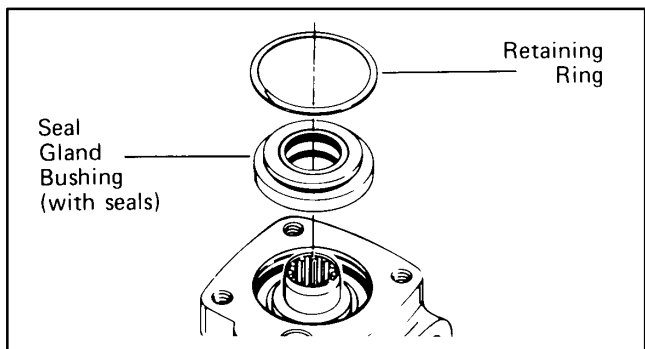

Figure 41
16. Install retaining ring (see Fig. 41 and 42) in housing. After installing ring, tap on ring end or pry with screwdriver around entire circumference of ring to properly seat ring in groove.